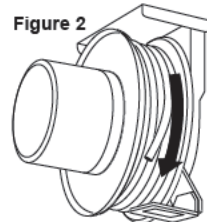

Figure 2
5. Pre-tension reel by rotating spool in clockwise direction (when viewed from slip ring side). Full 360° turns should match last digit in model number on serial plate. See fig. 2.